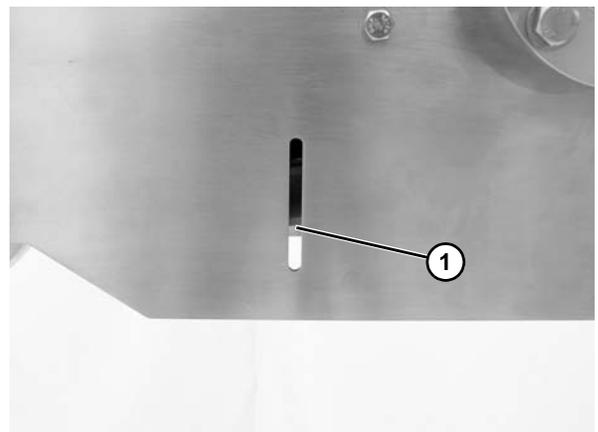

Figure 30
1. If chain slack hangs below slotted sight gauge (**Figure 30, item 1**), 1 or 2 links may need to be removed. Refer to “Replacing a Section of Belt” on page 16.
Before inserting belt rod to connect belt ends, be certain that the slack on belt is showing in slotted area (**Figure 30, item 1**) on conveyor drive end.